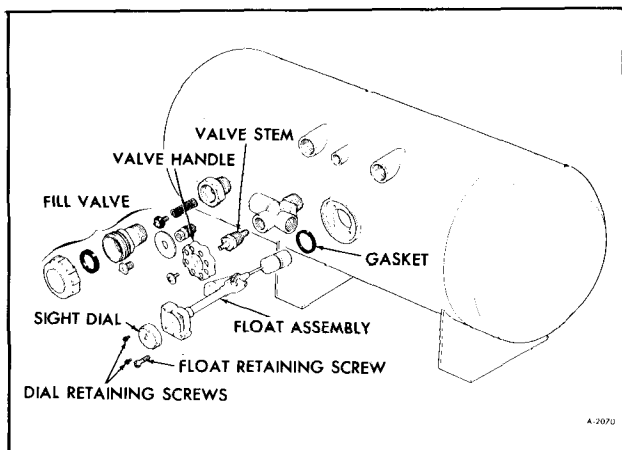

Figure 6-LP Gas Tank Components
2. Remove valve handle securing screw. Remove handle (See figure 6).
3. Remove valve stem (See figure 6).
1. Remove two (2) retaining screws (See figure 6).
2. Remove four (4) float retaining screws (See figure 6).
NOTE: Position float as shown in Figure 6 while removing from tank.